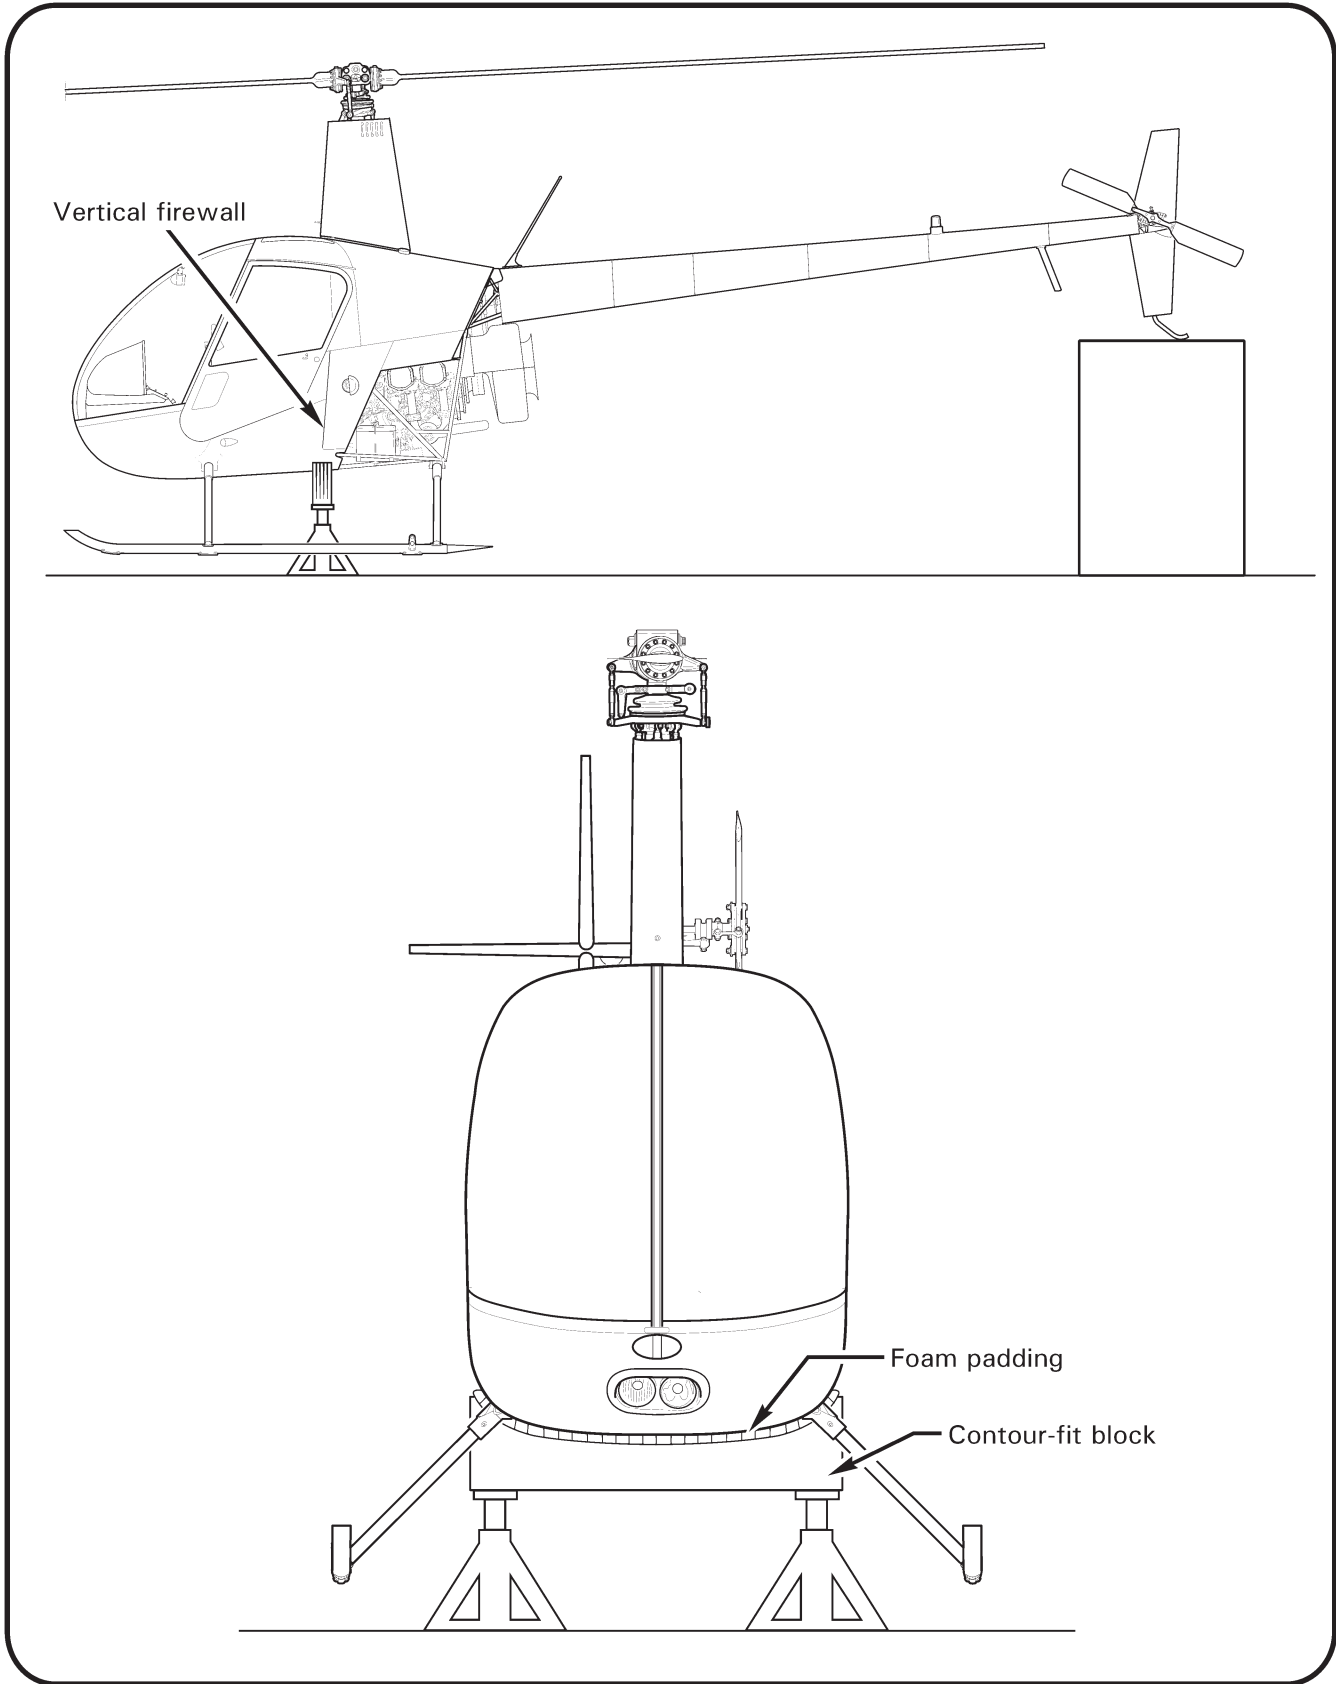

FIGURE 5-1 JACKING
- a. Place a foam-covered contour block under the vertical firewall (see Figure 5-1). Install skid stand under tail. Using a jack under each end of contour block, raise helicopter until skids clear ground by approximately 4 inches.